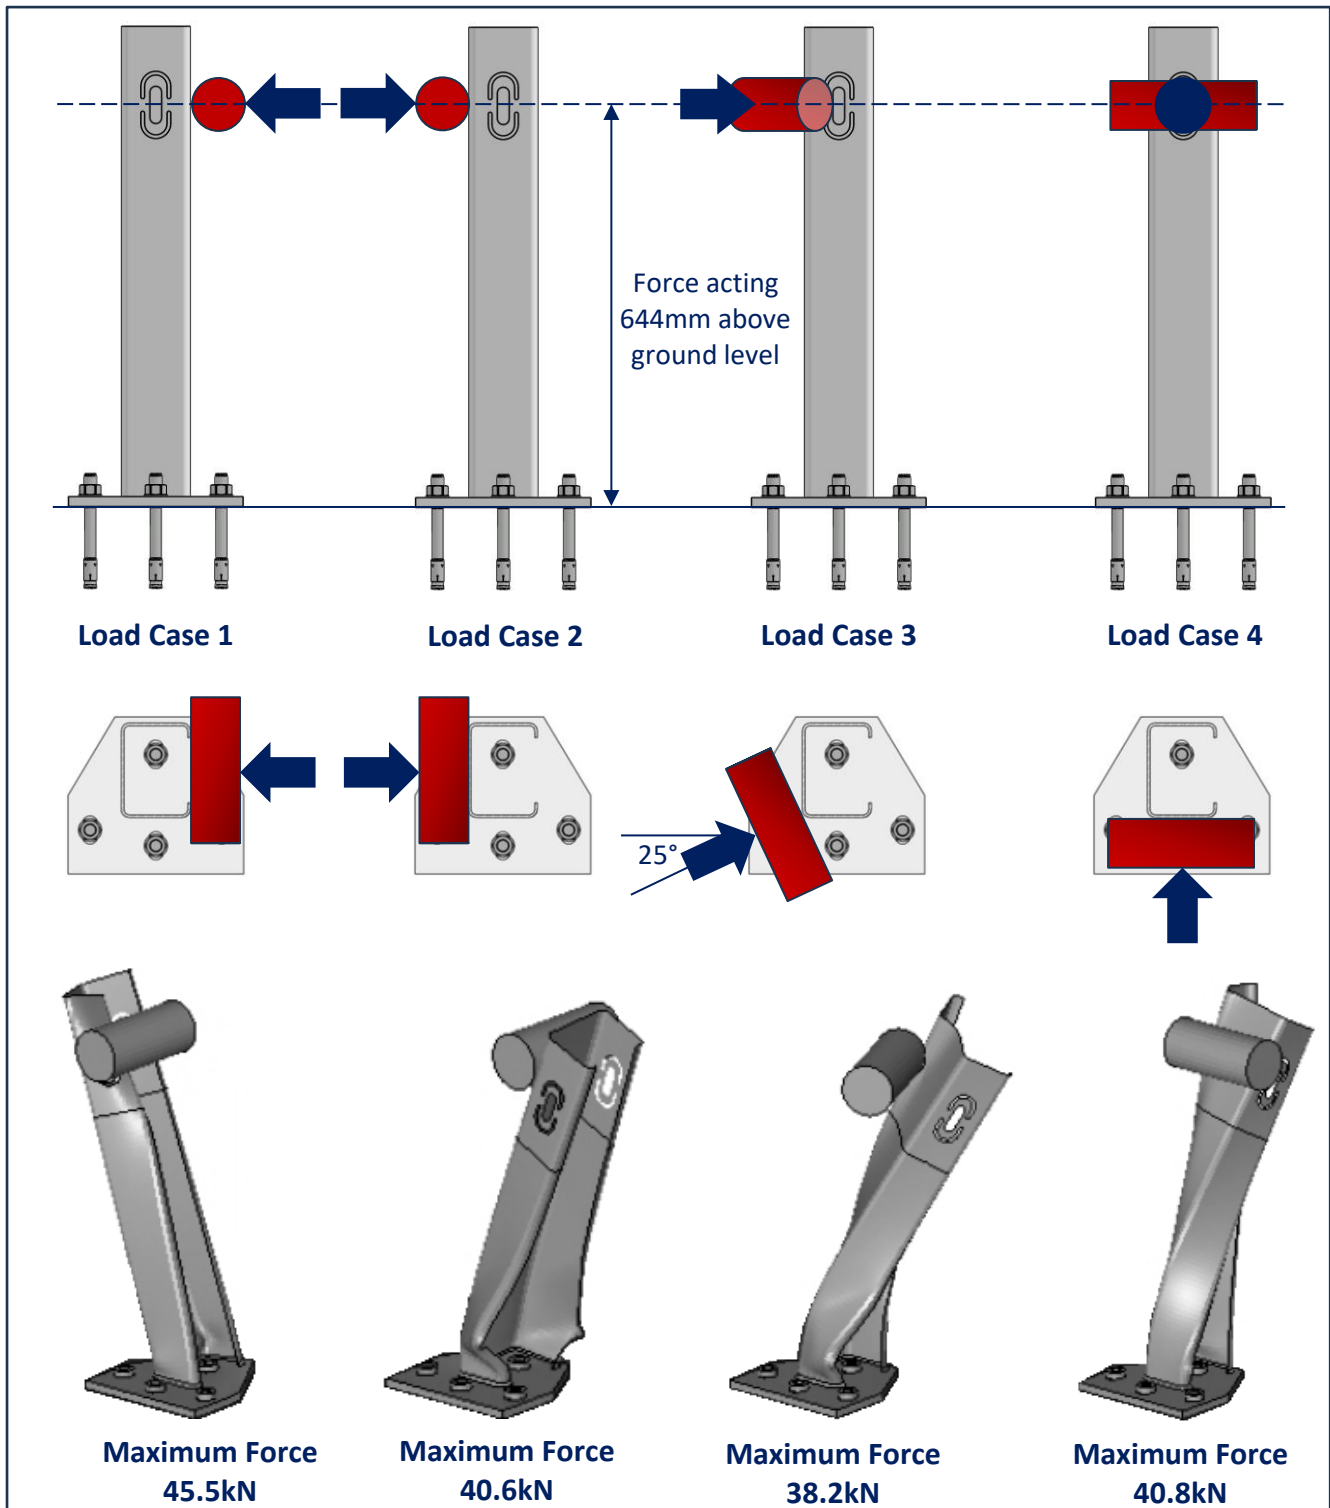

Figure 15: Load Capacity Analysis
Analysis was undertaken using four (4) load conditions as shown in Figure 15 to identify the maximum loading condition.